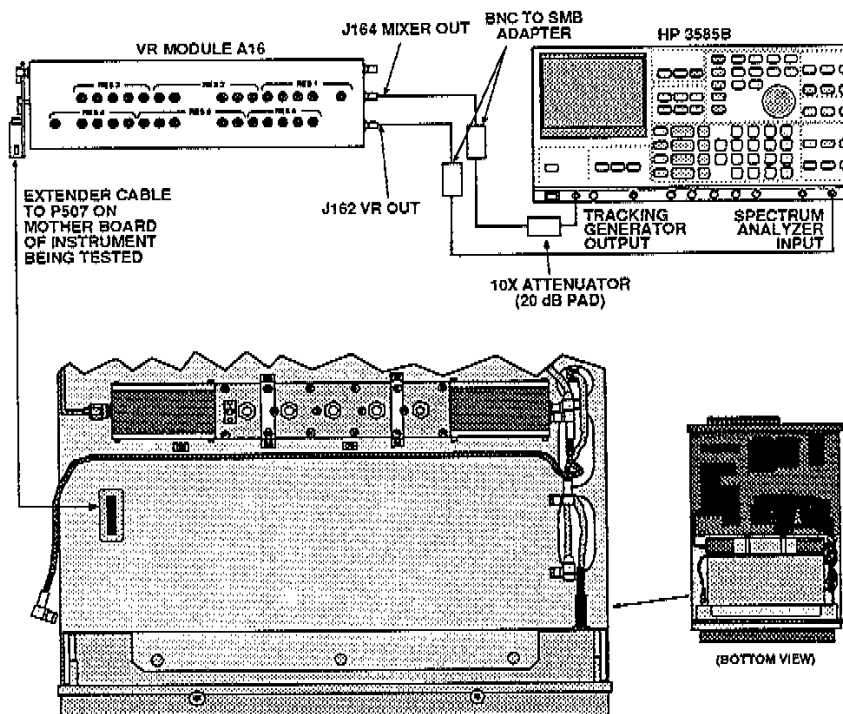

Figure 3-12. VR Module Test Setup.
3. Connect VR assembly test setup as illustrated in Figure 3-12. The Extender Cable from P507 on the mother board to the module is part of the optional Field Service Kit.